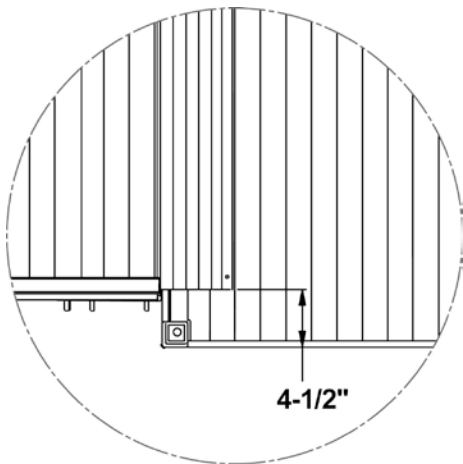

FIG. 14
- 2.5.2 Position the ramp to one side of the platform so that the edge of the transition plate is 4½" from the outer edge of the platform (FIG. 14). **Note:** The transition plate will be secured later.